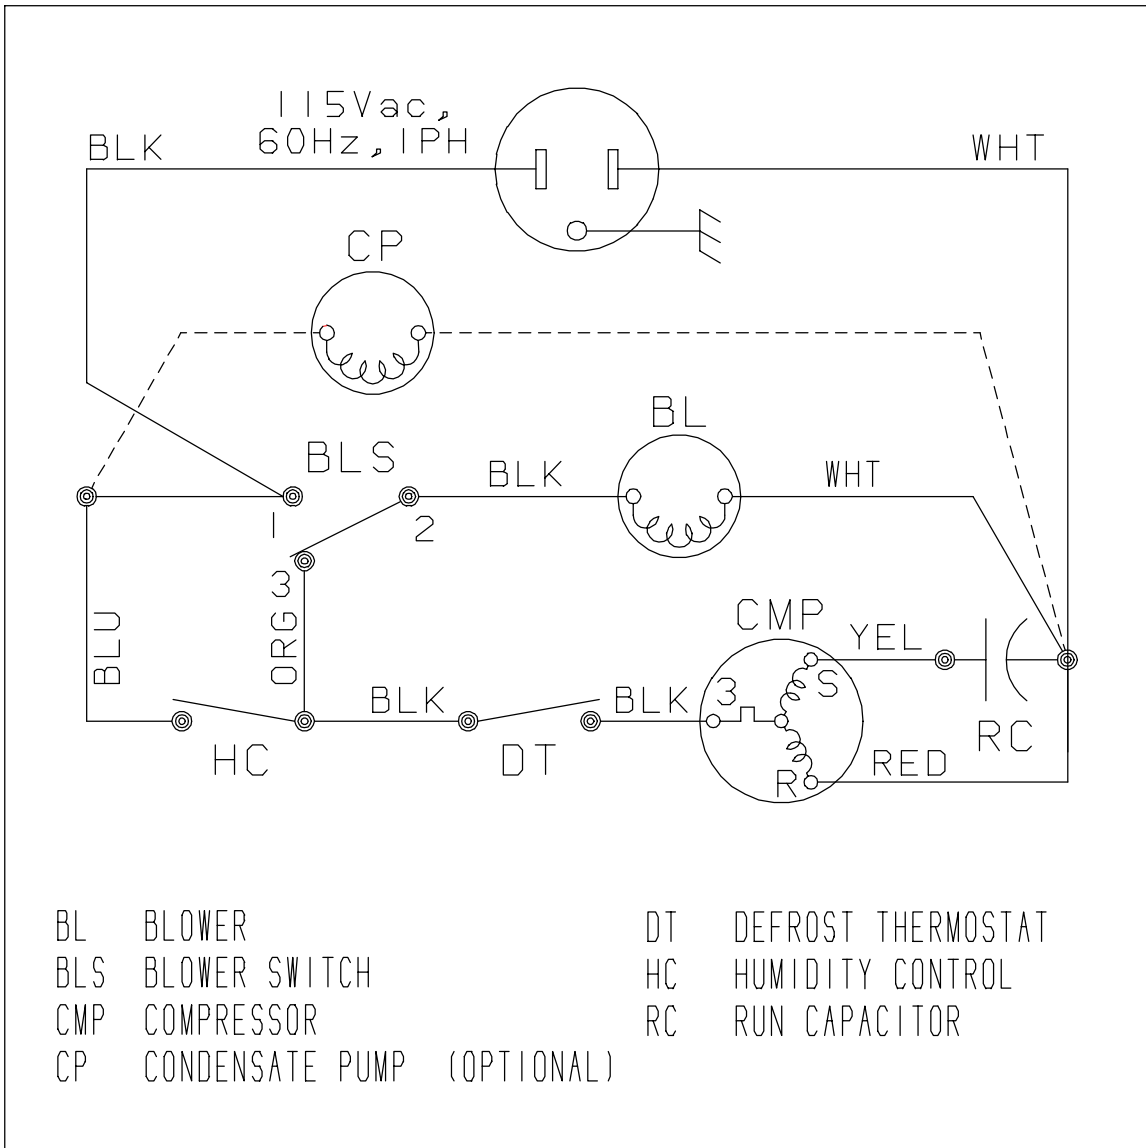

Figure 2: Electrical Schematic of the DH-100V Dehumidifier
2. Loose connection in compressor circuit (see Fig. 2).
1. Loose connection in blower circuit (see Fig. 2).
This compressor is equipped with a two terminal external overload, run capacitor, but no start capacitor or relay. See Fig. 2.